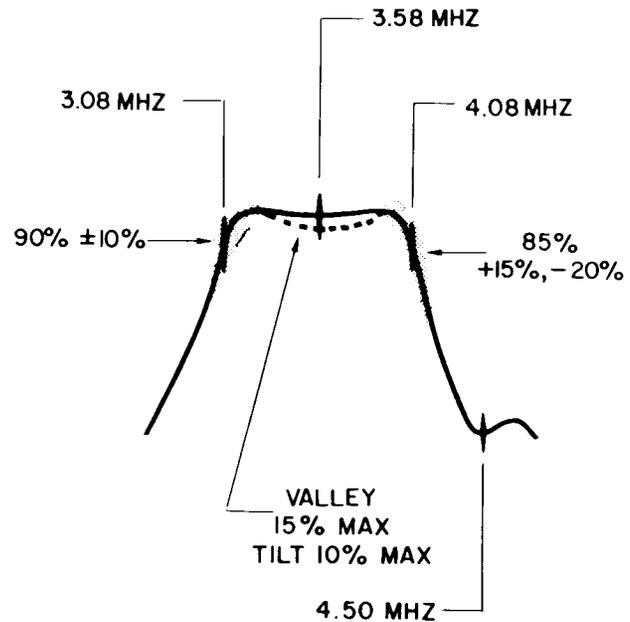

Figure 22. Typical Chroma Response Curve Showing Tolerance Ranges of Response Levels
6. A response curve similar to that shown in Figure 22 should be seen. Select the marker generator frequencies of interest. Refer to the manufacturer's instructions for bandpass specifications and alignment procedure.